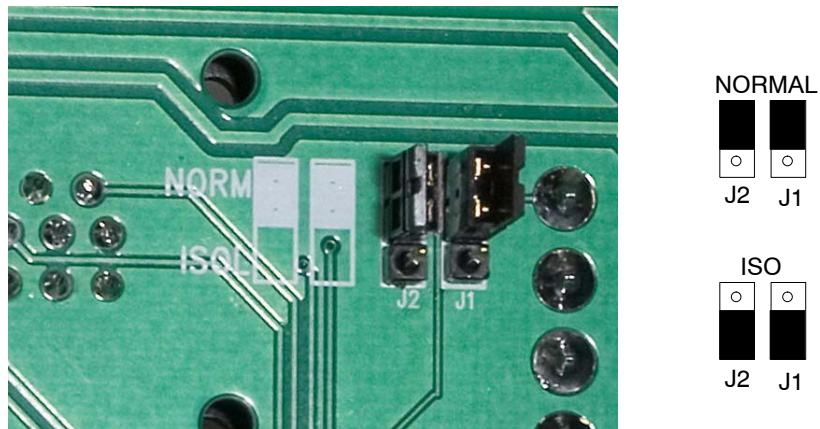

Figure 3-5 Machine Stop Interlock Jumper Settings – Shown Set To NORMAL
See Figure 3-5. To access the Machine Stop Interlock jumpers remove the power supply cover. The jumpers are on the back of the I/O connector circuit board.
- Both jumpers must be set shown in Figure 3-5.